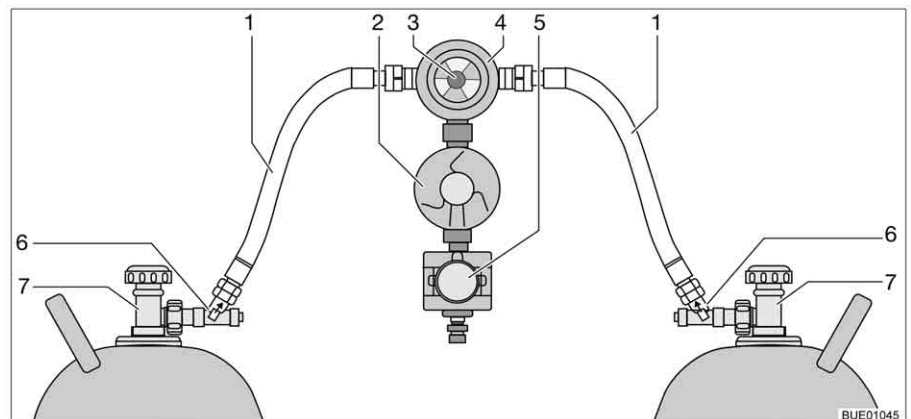

Fig. 121 Crash protection unit switching facility
The crash protection unit consists of two flow restrictors with manual release button (Fig. 121,6) a reversing valve (Fig. 121,4) with pressure regulator (Fig. 121,2), an electrovalve (Fig. 121,5) and the operating unit with tricoloured LED. The reversing valve is installed between the two gas tubes (Fig. 121,1).
Use the knob (Fig. 121,3) on the reversing valve to select which of the gas bottles is to be used as a primary bottle and which is to be used as a reserve bottle.
Only the electrical functions can be switched at the operating unit (Fig. 122). The regulator taps on the gas bottles (Fig. 121,7) and the release buttons (Fig. 121,6) must be opened manually.
- Open the regulator taps of the gas bottles (Fig. 121,7).
- Press the release buttons (Fig. 121,6) successively for 10 seconds.
- Use the knob (Fig. 121,3) on the reversing valve (Fig. 121,4) to select the gas bottle which is to be the primary source of gas (primary bottle). Always turn the knob as far as it will go.
- Close the regulator taps of the gas bottles (Fig. 121,7).